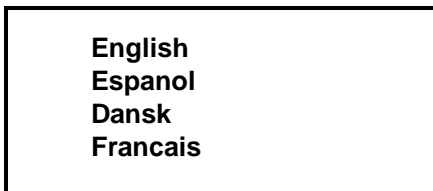

Figure 119
3. You must first select the language to be displayed on the screen. (See Figure 119.)